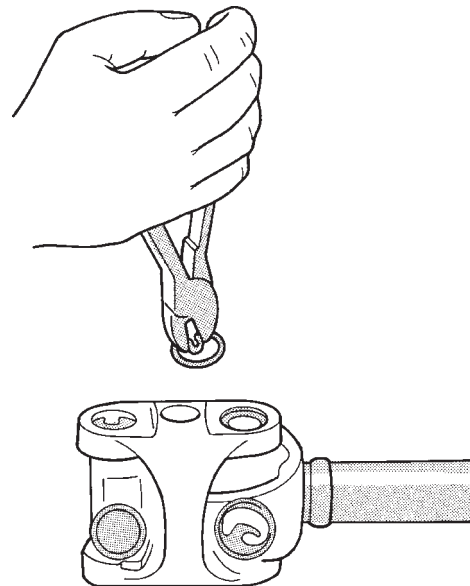

Fig. 23 Remove Snap Rings
- (1) Remove the propeller shaft.
- (2) Using a soft drift, tap the outside of the bearing cap assembly to loosen snap ring.
- (3) Remove all the bearing cap snap rings (Fig. 23).
- (4) Set the joint in an arbor press or vise with a socket whose inside diameter is large enough to receive the bearing cap positioned beneath the link yoke.